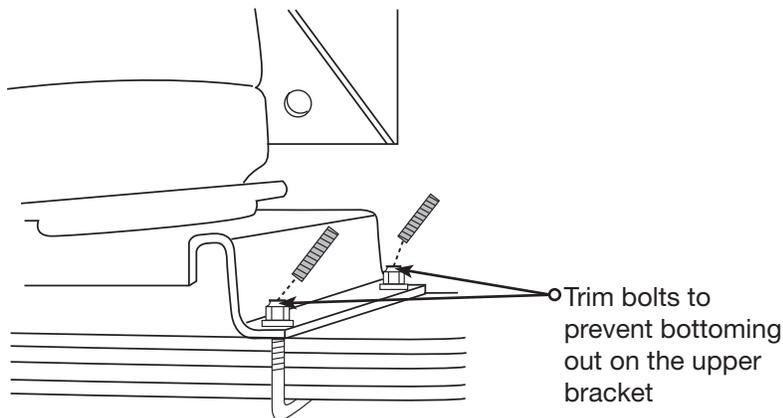

fig. 10
2. Depending on the thickness of the leaf spring stack, it will be necessary to trim the U-bolts (Fig. 10).